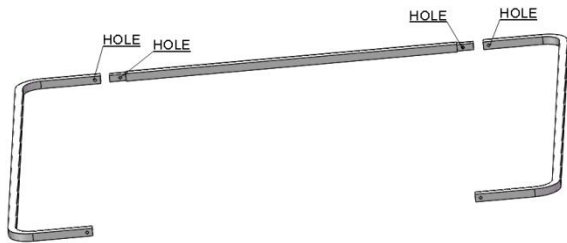

Figure 18
Step 17: Insert one shooting rail bar(TS305.13) into the two shooting rail connectors (TS305.12). Repeat this step for the other shooting rail. Leave these hand tight for now. (**Figure 18**)